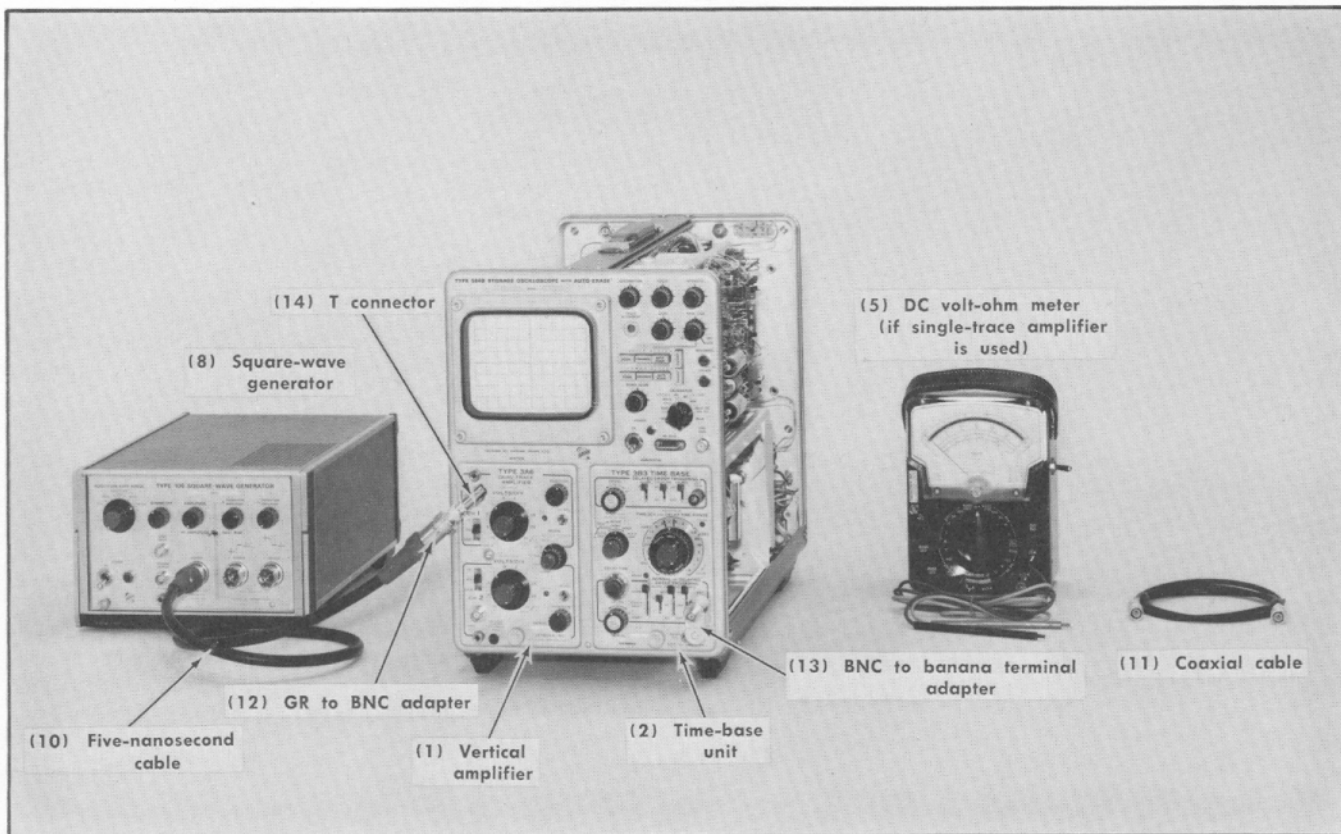

Fig. 5-5. Test equipment required for steps 7 through 16.
a. Test equipment required for steps 7 through 16 is shown in Fig. 5-5. The equipment illustrated is keyed to that listed under Test Equipment Required. If the vertical amplifier unit has only single-trace capabilities, use the substitute procedure following step 7c.